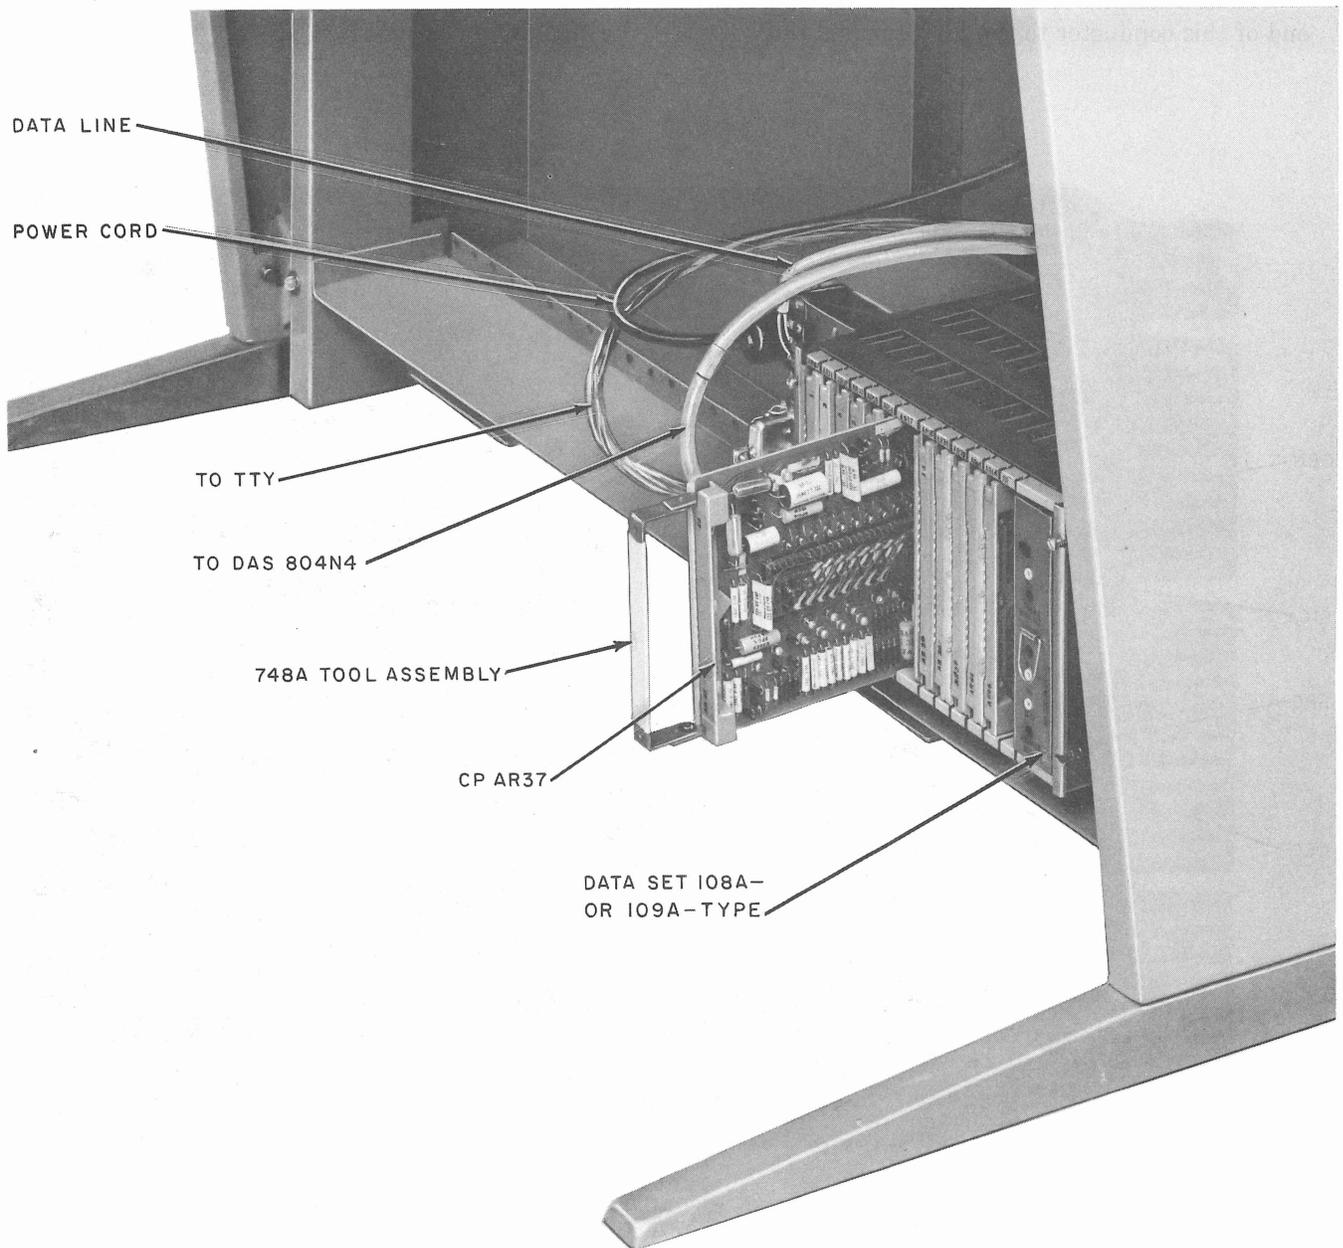

Fig. 2—Model 35 ASR, Location of Data Auxiliary Set 820B1 and CP AR37 Extended
2.02 Access to DAS 820B1 or 820B2 is by removing the lower compartment panel. There is no maintenance position in the 35-type TTY. Maintenance of DAS 820B1 or 820B2 is performed in the normal position (Fig. 2).